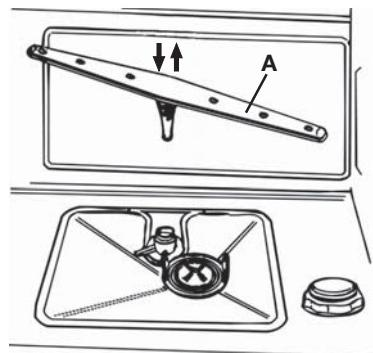
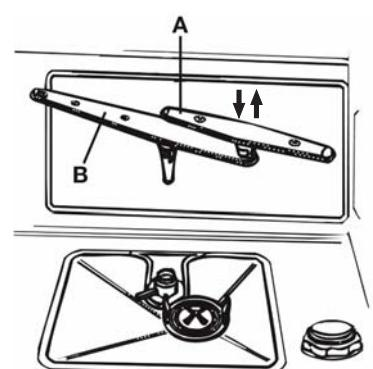

Fig. 5-03
Fig. 5-04
- To remove the lower spray arm (ref. A fig. 5-03), simply lift it up, pulling by the central part (see fig. 5-03). To remove the orbital spray arm assembly (ref. A fig. 5-04), take hold of the **lower** arm (ref. B fig. 5-04) and pull the **orbital** unit upward (see fig. 5-04). After cleaning, remount the orbital spray arm in its seat and push it down slightly until it clicks into place on the lower spray arm (see fig. 5-04). Then remount the lower spray arm into its seat and push it down slightly until it click into place (see fig. 5-03).